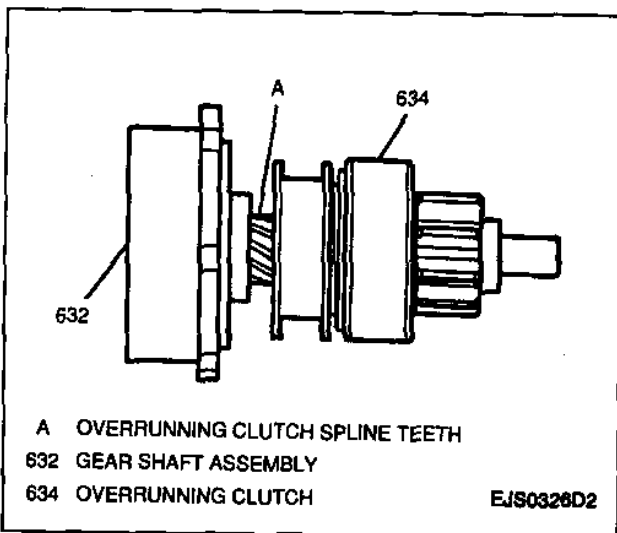

Figure 32—Inspecting Overrunning Clutch Spline Teeth
3. Overrunning clutch spline teeth for wear or damage; replace as necessary (Figure 32).